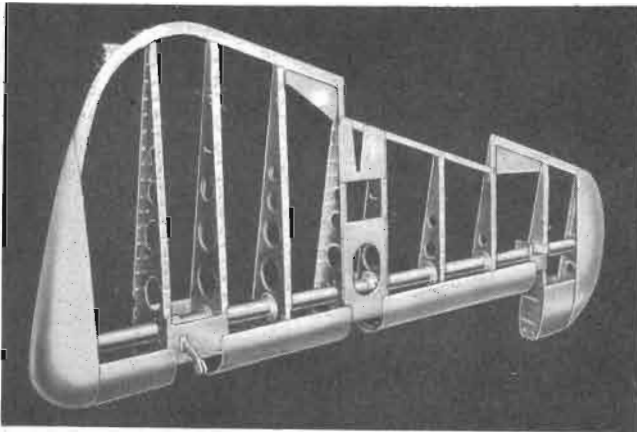

Figure 83 — Rudder Structure
(1) DESCRIPTION.—(See figures 83 and 84.)—The rudder is statically and dynamically balanced. The 24ST Alclad aluminum rudder frame is constructed around a 1-3/4 inch diameter 24ST aluminum-alloy torque tube which forms the primary load-bearing member of the structure. The trailing edge is excepted since it is formed from 24SO Alclad sheet .032-inch thick. The curved top of the rudder is formed from two shallow half sections of 52S1/2H aluminum-alloy sheet welded together about the common circumference and riveted to the uppermost rib of the structure. The ribs are formed from .020-inch thick 24SO Alclad sheet. In original rib forming, power-pressing was utilized to provide the integral capstrips, stiffening beads, and flanged cut-outs. The ribs extend from the leading edge to the trailing edge and are riveted to the torque tabs by means of flanged collars. The leading edge forward